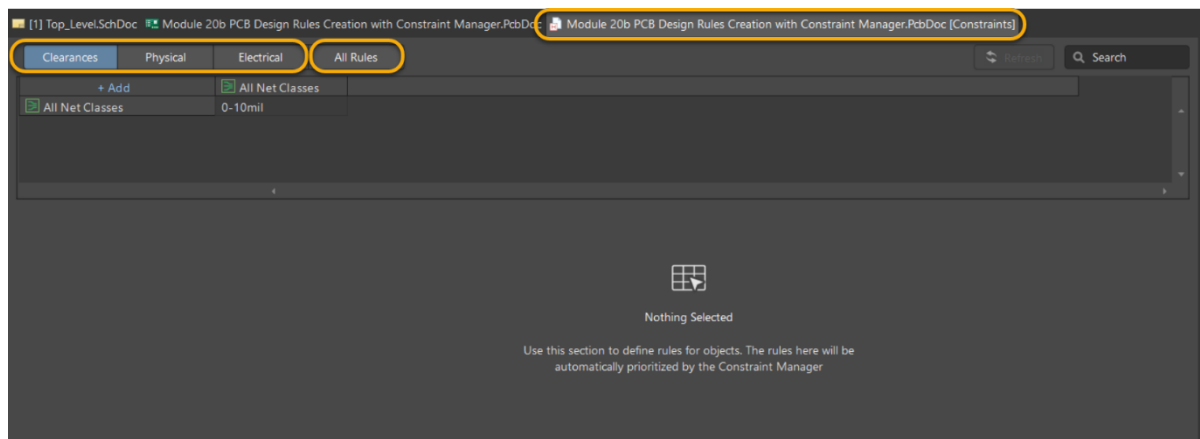

Figure 1. Constraint Manager
11. At the top of the document, there are four different constraint types; Clearance, Physical, Electrical and the All Rule area. This can be seen in Figure 1 **Error! Reference source not found..**